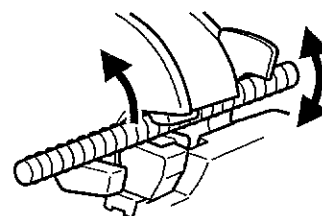

Fig. 7
2. Removing the rebar during cutting operation. (Fig. 7)
When this occurs, you can either pull the switch trigger again and cut off the rebar, or you can free the rebar by bringing the upper cutter back up to the home position by carrying out the following procedure. (Fig. 7)